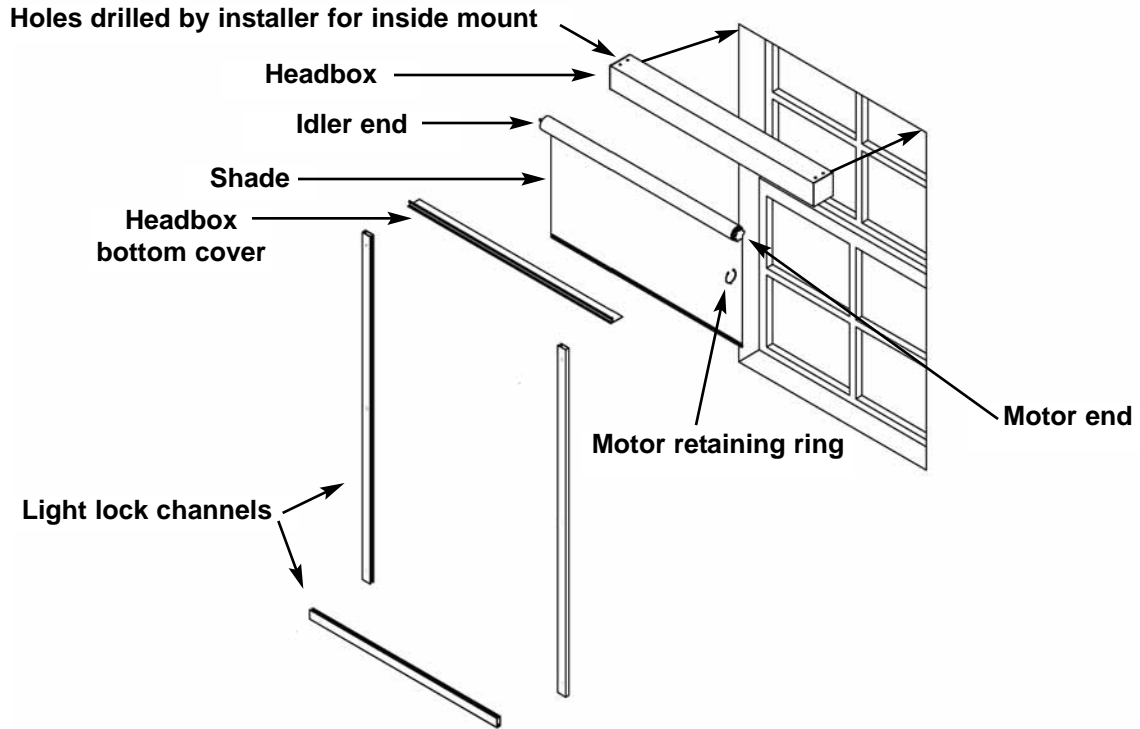
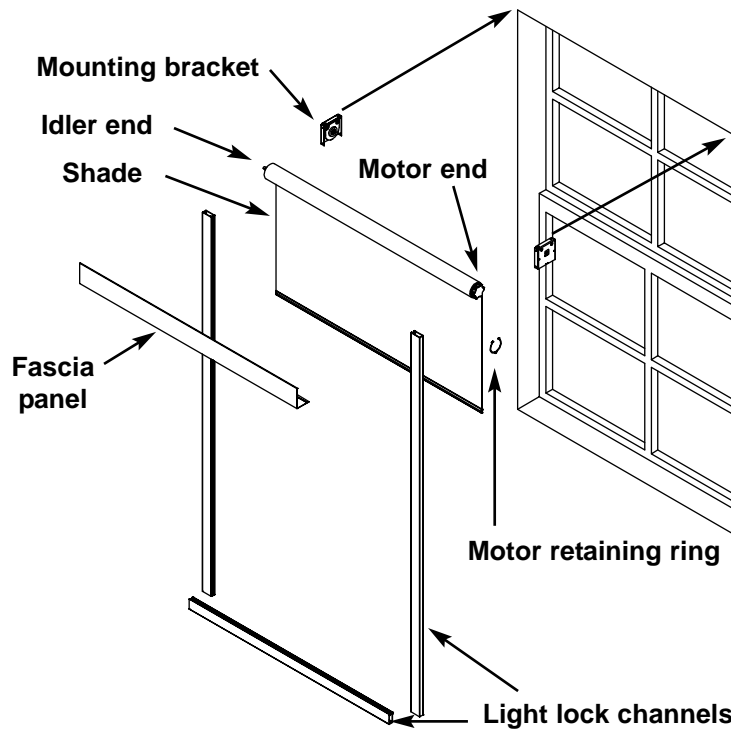

Figure 1. Shade with headbox, inside bracket mount
Figure 2. Shade with fascia, inside bracket mount
Refer to Figure 1 and Figure 2 for a view of key components.
1. Position brackets inside the window frame recess for shades intended for Inside Bracket mount, shown in Figure 2, or on the wall face for Outside Bracket mount. Be sure to place the motor bracket correctly on the right or left side, as specified in the order.
1. To mount the headbox, drill holes through the extrusion as necessary to attach with screws to the wall face (Outside Bracket mount) or inside the window frame (Inside Bracket mount). Stewart suggests that you place the mounting holes in the top of the headbox unit for Inside Bracket mount and in the back of the unit for Outside Bracket mount. Refer to Figure 1.